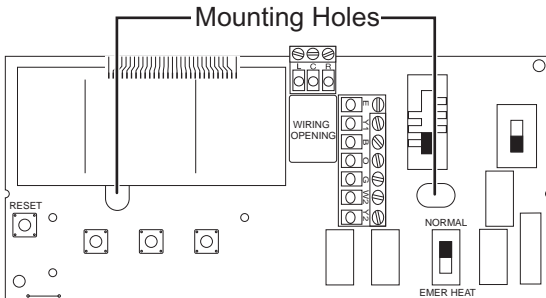

Figure 4
5. Place thermostat against the wall at desired location. Make sure wires will feed through opening (Figure 4) on base of thermostat.
6. Mark placement of mounting holes (Figure 4). Set base aside.